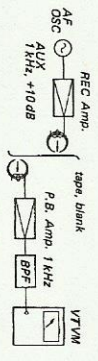

Fig. 12-29 Cross-talk measurement setup (between tracks)
- Connection: As shown in Fig. 12-29.